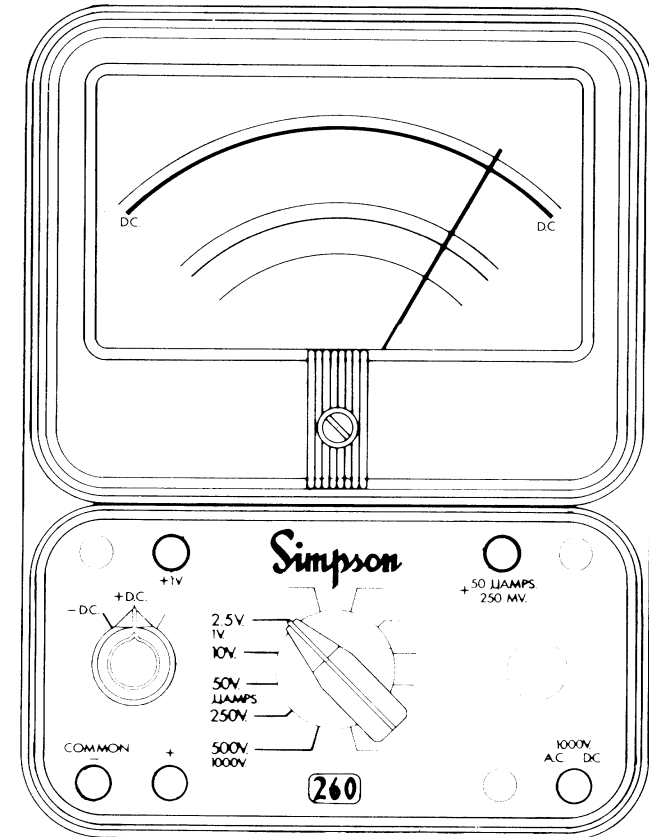

Figure 4-1. Jacks and Switch Positions for Measuring DC Voltage
- Set the function switch at +DC (Figure 4-1).
- a. Set the function switch at +DC (Figure 4-1).